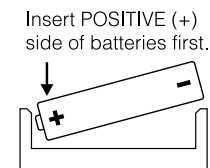

Figure 2
2. Install the batteries positive (+) side first (see Figure 2).